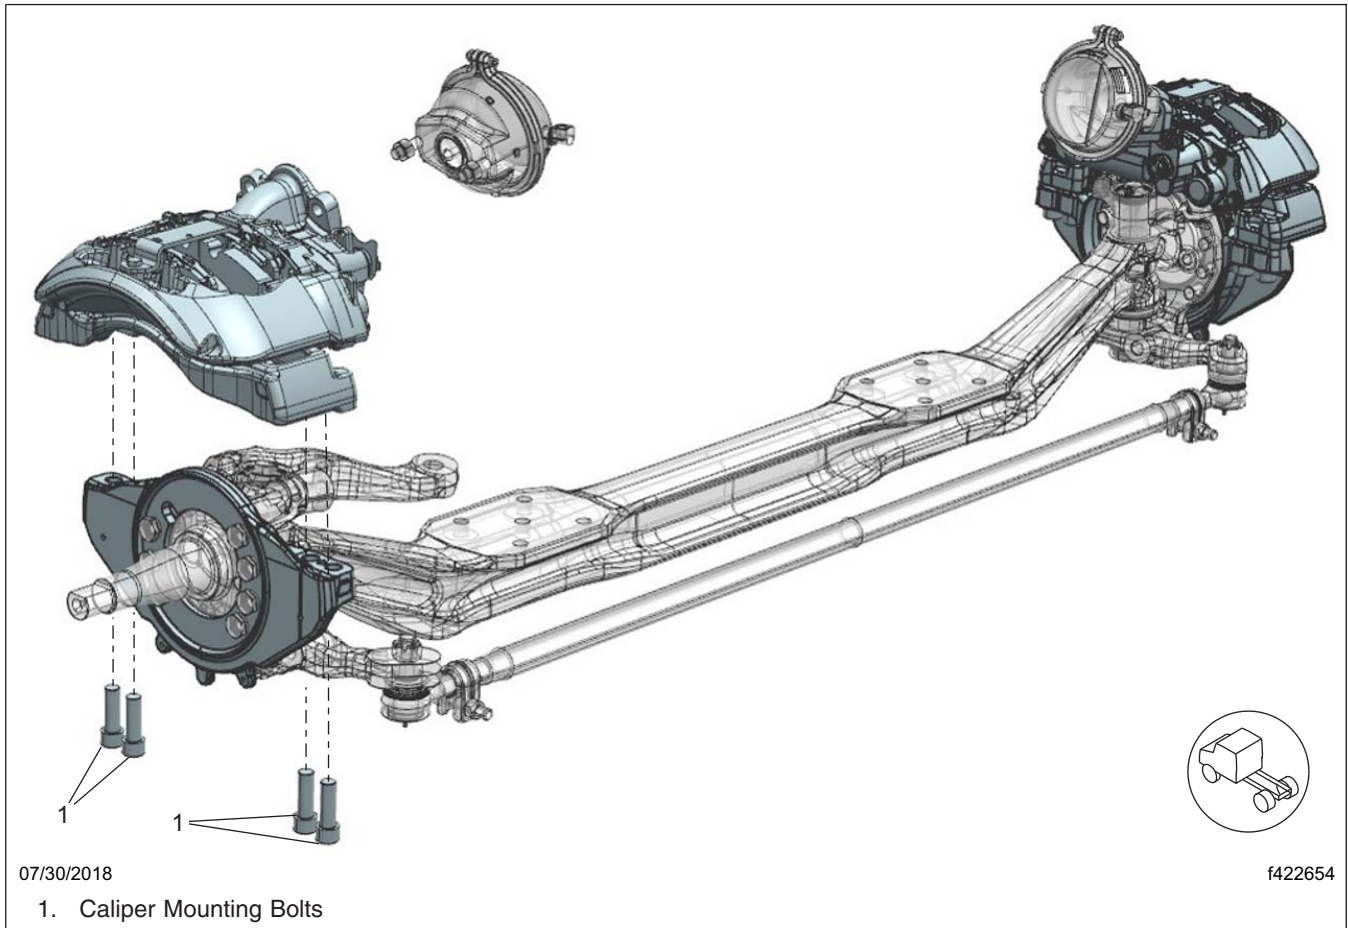
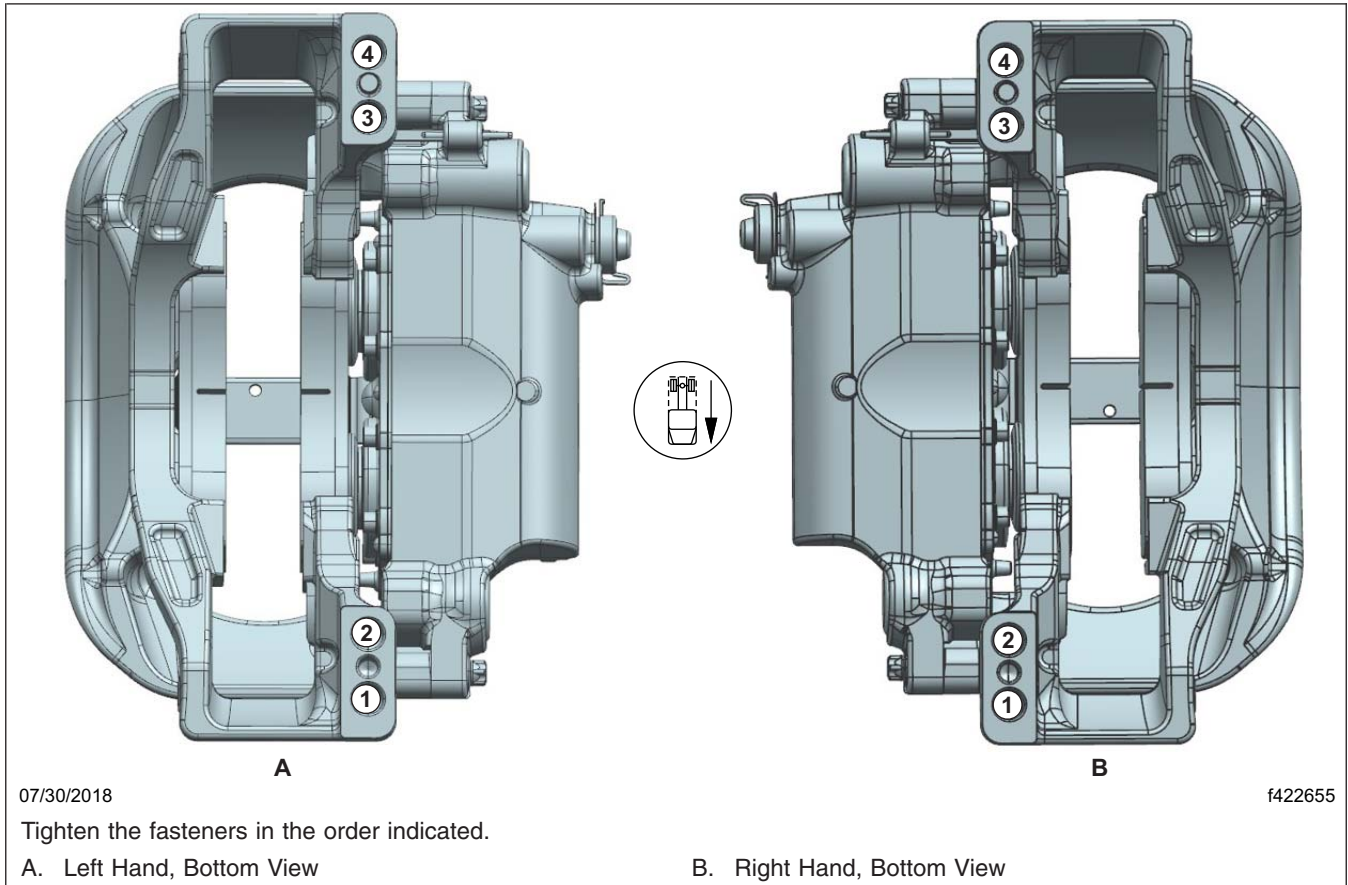

Fig. 6, Meritor Radial Mounted Caliper
Fig. 7, Tightening Pattern, Meritor Caliper
9. Align each caliper/carrier assembly with the rotor by pushing the fixed pin side of the caliper against the shelf on the torque plate, then install the caliper/carrier assembly using new caliper mounting bolts. See Fig. 6 and Fig. 7.
10. Tighten the carrier mounting bolts in two steps, using the pattern shown in Fig. 7.